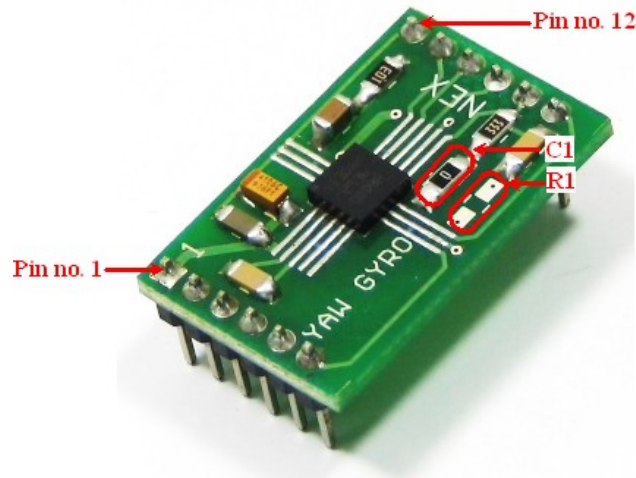

Figure 1 : Pin Configuration
0.1 μ F and 10 μ F power supply decoupling capacitors placed near the supply pins. The board allows band limiting of the output rate response through the use of an external low pass and high pass filter. It is always recommended to have low pass filter. On the board low pass filter consisting of R2 and C2 is present. High pass filter is generally not required but if it is required for some specific application, empty pads for R1 and C1 are provided. In the default condition C1 is replaced by 0 ohm resistance. Use R1206 package SMD components for the high pass filter. Refer to Figure 1 for location of the R1 and C1.